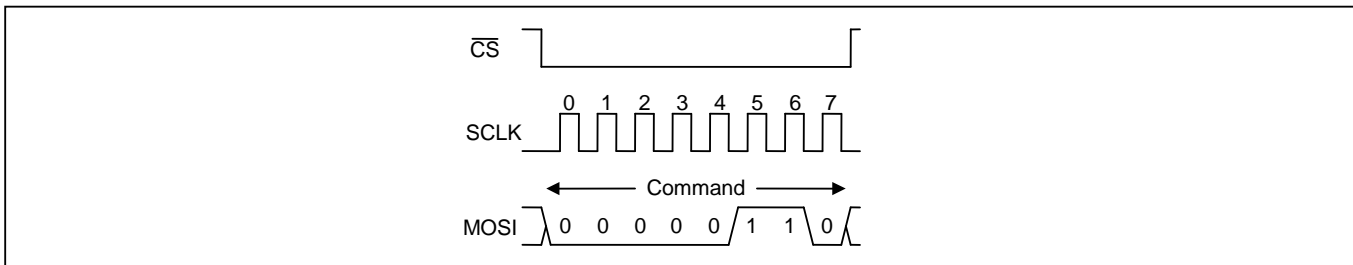
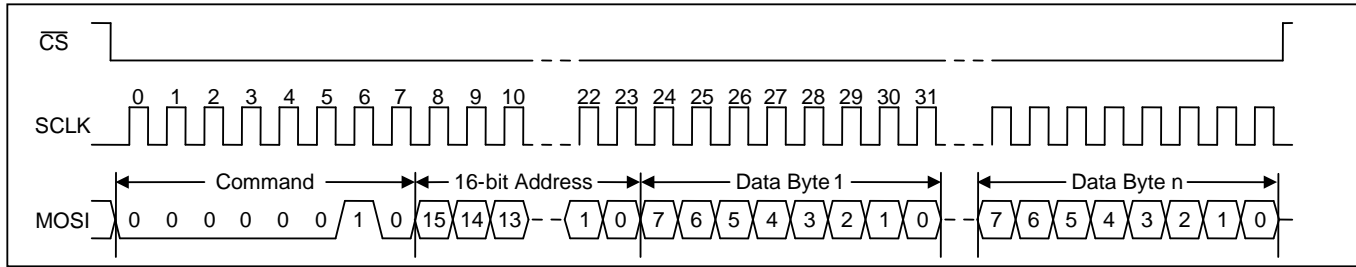

Figure 8 - SPI Write Enable Transaction Functional Timing (ZL30251 Only)
Figure 9 - SPI Write Transaction Functional Timing
**Register Write Transactions.** The device registers are accessible when **EESEL=0**. After driving CSN low, the bus master transmits the write command followed by the 16-bit register address followed by the first data byte to be written. The device receives the first data byte on MOSI, writes it to the specified register, increments its internal address register, and prepares to receive the next data byte. If the master continues to transmit, the device continues to write the data received and increment its address counter. The write transaction is completed when the bus master drives CSN high. See Figure 9.
its page buffer. The device then receives the first data byte on MOSI, writes it to its page buffer, increments its internal address register, and prepares to receive the next data byte. If the master continues to transmit, the device continues to write the data received to its page buffer and continues to increment its address counter. The address counter rolls over at the 32-byte page boundary (i.e. when the five least-significant address bits are 11111). When the bus master drives CSN high, the device transfers the data in the page buffer to the appropriate page in the EEPROM memory. See Figure 8 and Figure 9.